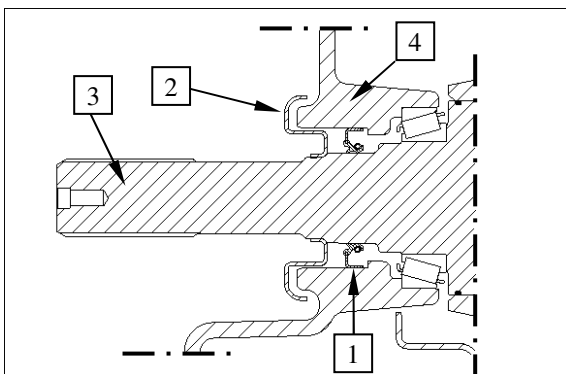

Figure 7
Use driver tool (S) to fit the shaft seal 40x62x7 (1) until contact position, with the sealing lip showing towards the oil sump (see Figure 7).
Use the driver tool (S) to install screen sheet (2) onto the VA clutch shaft (3) until contact position (see Figure 7).